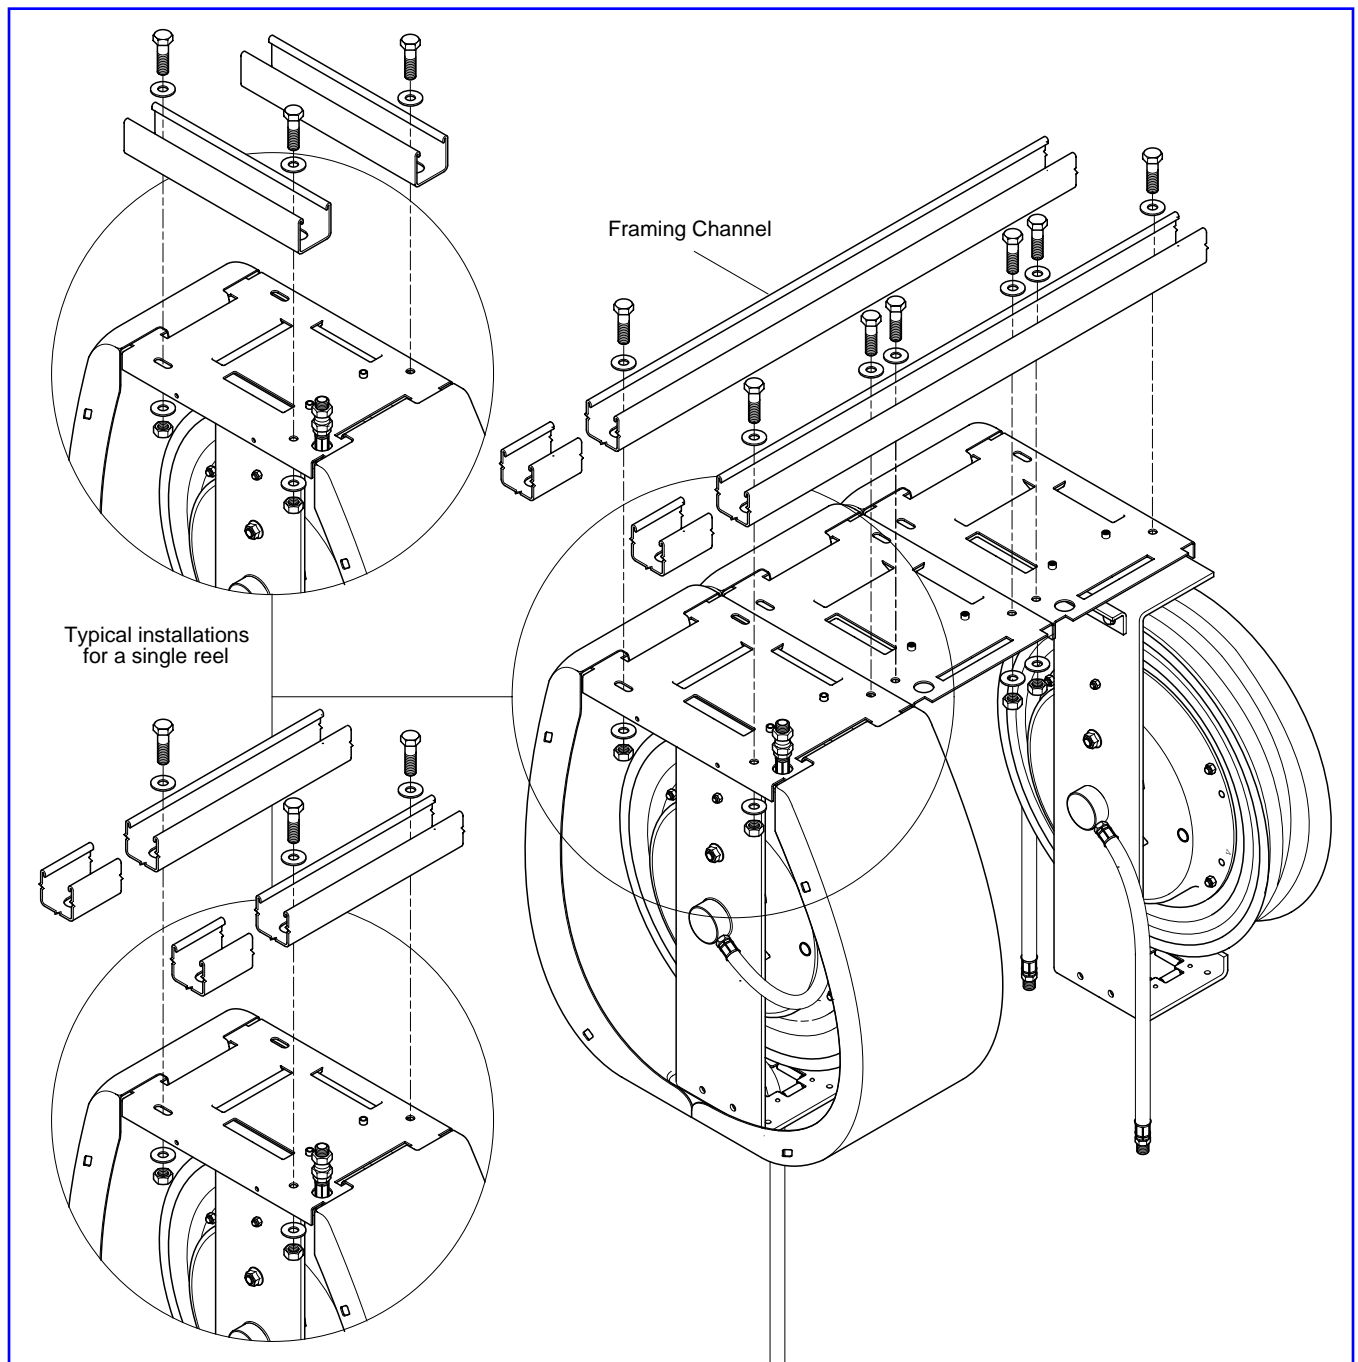

Figure 4 *Shield Installations - Typical*
The shield mounts as a single unit or in banks of as many as required. Banked shields butt against one another to utilize the minimum amount of space. See **Figure 4**.
Attachment of Mounting Plates (2) to metal framing channels or other suitable structure will vary. Refer to **Figure 4** for a typical installation.